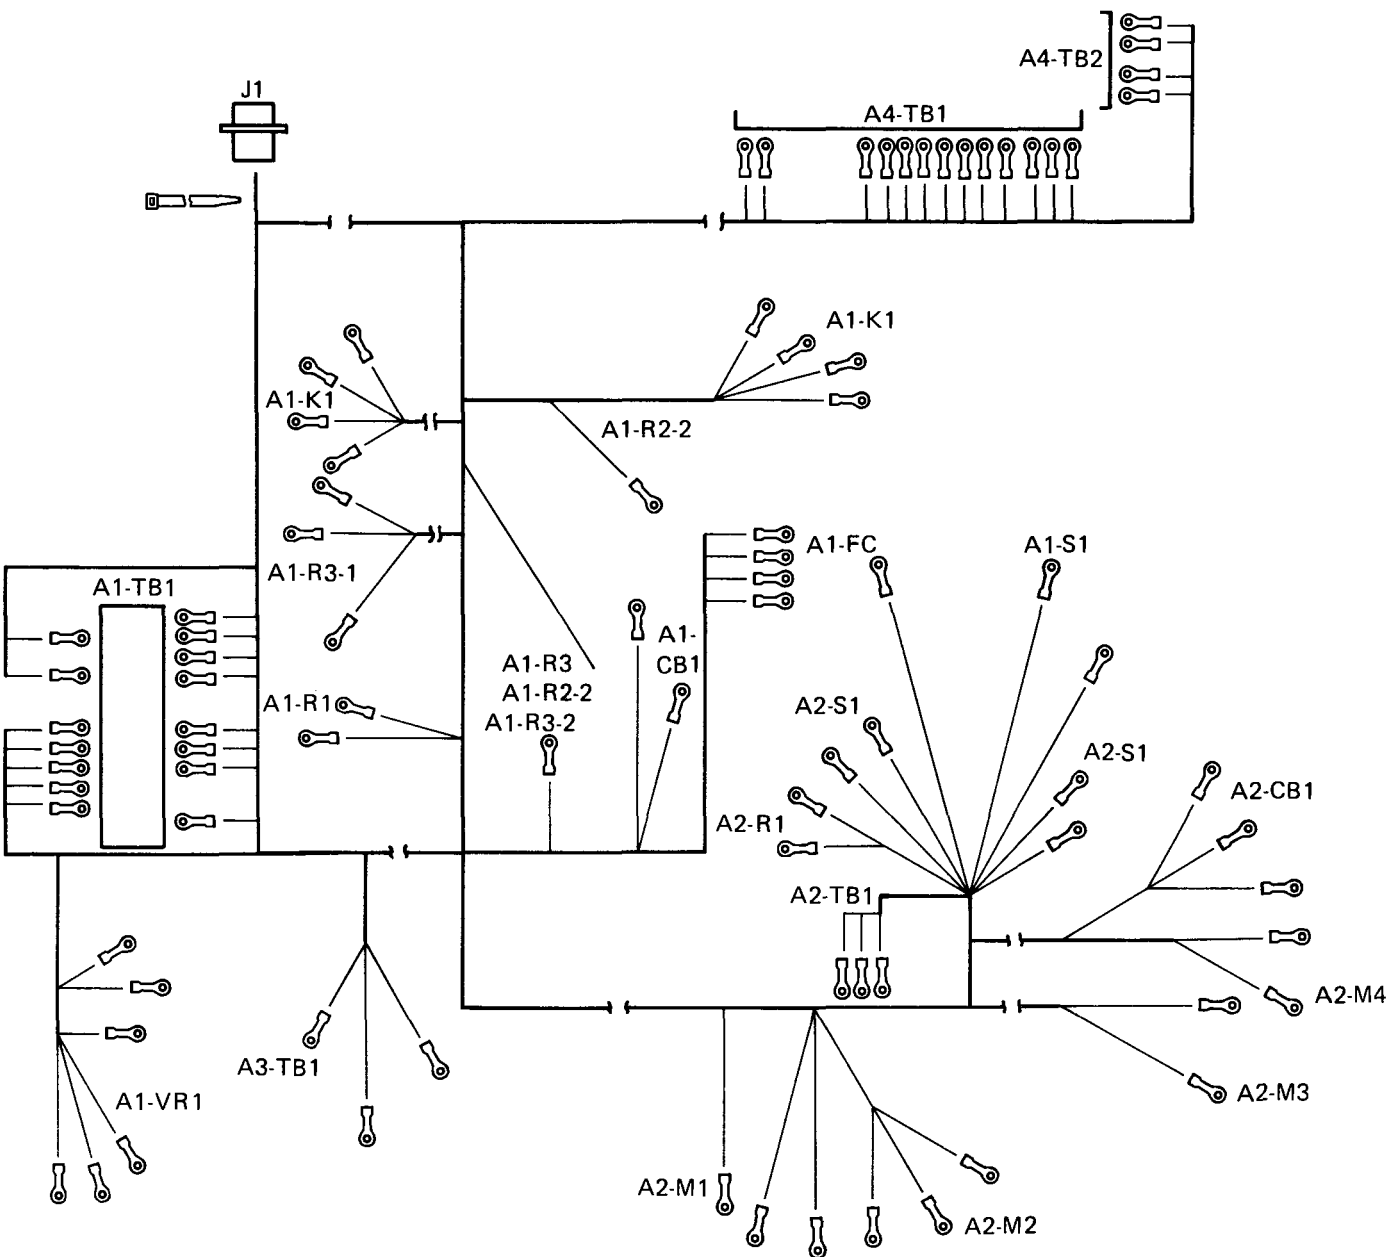

Figure 4-65. Control Wiring Harness (Model MEP-026B).
2. For electrical wiring diagram (Model MEP-026B) see Figure 4-65.